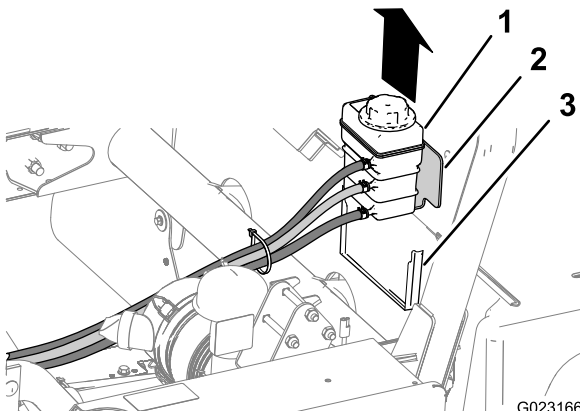

Figure 8
1. Lift the coolant tank up and out of the support pocket on the back of the seat shroud (Figure 8).